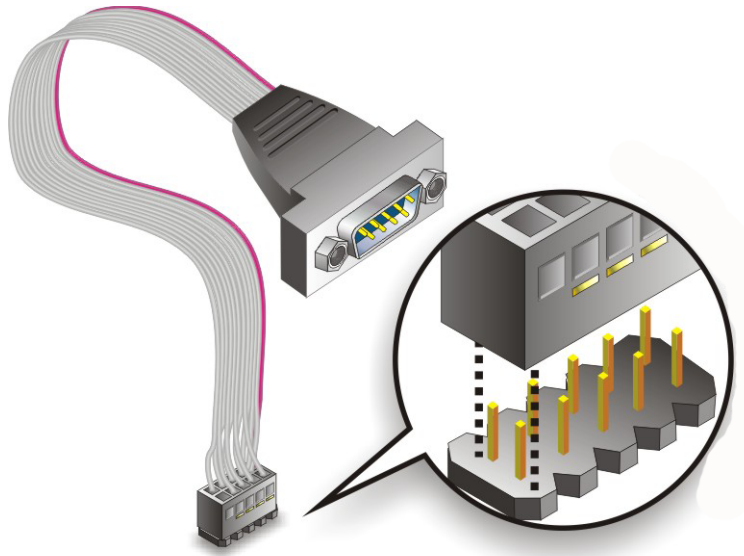

Figure 5-18: Single RS-232 Cable Installation
Step 2: Insert the cable connector. Insert the connector into the serial port box header. See Figure 5-18. A key on the front of the cable connectors ensures the connector can only be installed in one direction.